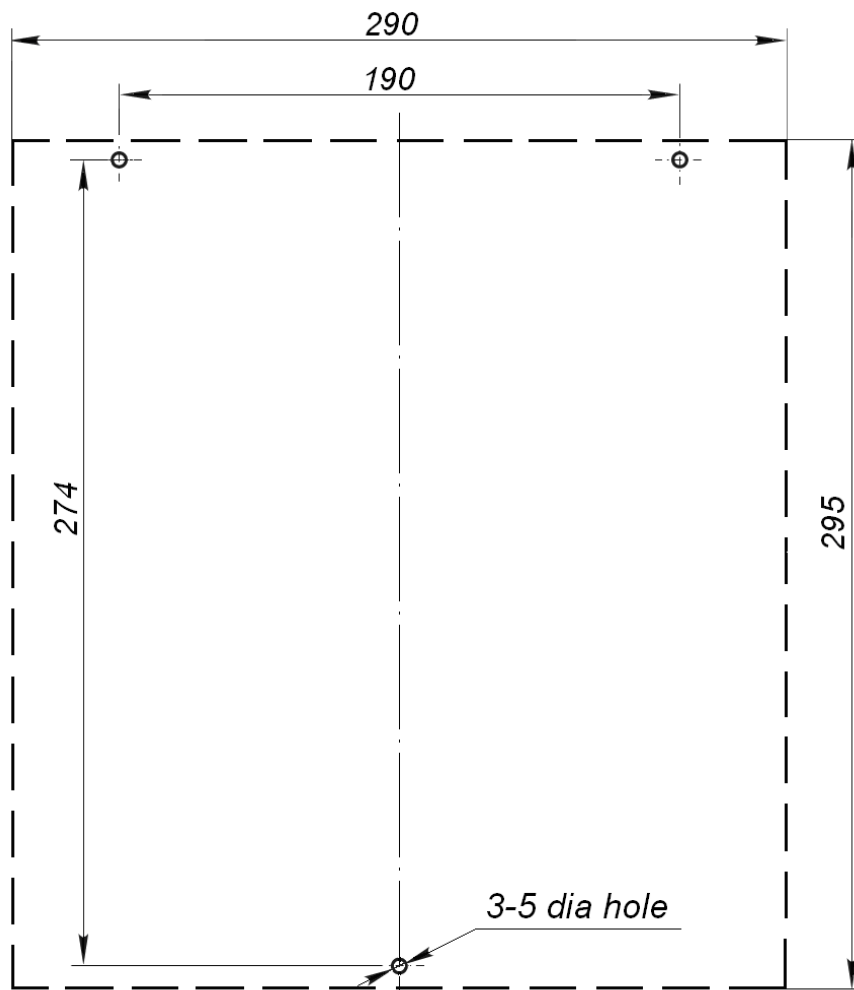

Figure 8. Hole pattern for CU mounting
7. Take the barrier wings (6) out of the shipping box. Set the filler panels (7) into the fastenings (15), aligning them in height and observing gap uniformity, and fix them with the fastenings screws. Mount the barrier wings into the coupling fittings (14) of the rotary post (1). Tighten the barrier wings (6) mounting screws through the coupling fittings (14) holes. Check the strong fastening of the barrier wings (6) and the filler panels (7).
8. Check free rotation of the rotary post (1). Unblock the rotary post with the mechanical release key (5) (see Clause 5.5). The rotary post (1) with barrier wings (6) should be turned by hand easily without jamming. The rotation force at the center of the barrier wing (6) should be not more than 1.5 kgf. The rotation force can be measured by a dynamometer or a domestic spring balance. Block the turnstile with the key (5) after the check.
9. Mark out the holes for wall mounting of the control unit (8) as shown in Fig. 8. Drill the holes and insert the plastic dowels, included in the installation kit. Insert the top screws, suspend the control unit and fix it with the bottom screw to prevent the accidental pull off. Fix the control unit (8) considering that the convenient access to the toggle switches, fuses and indicators is provided (Fig. 3). The control unit (8) should be mounted on the wall upright with the connectors down. The AC power cable (12) should easily touch the mains plug.